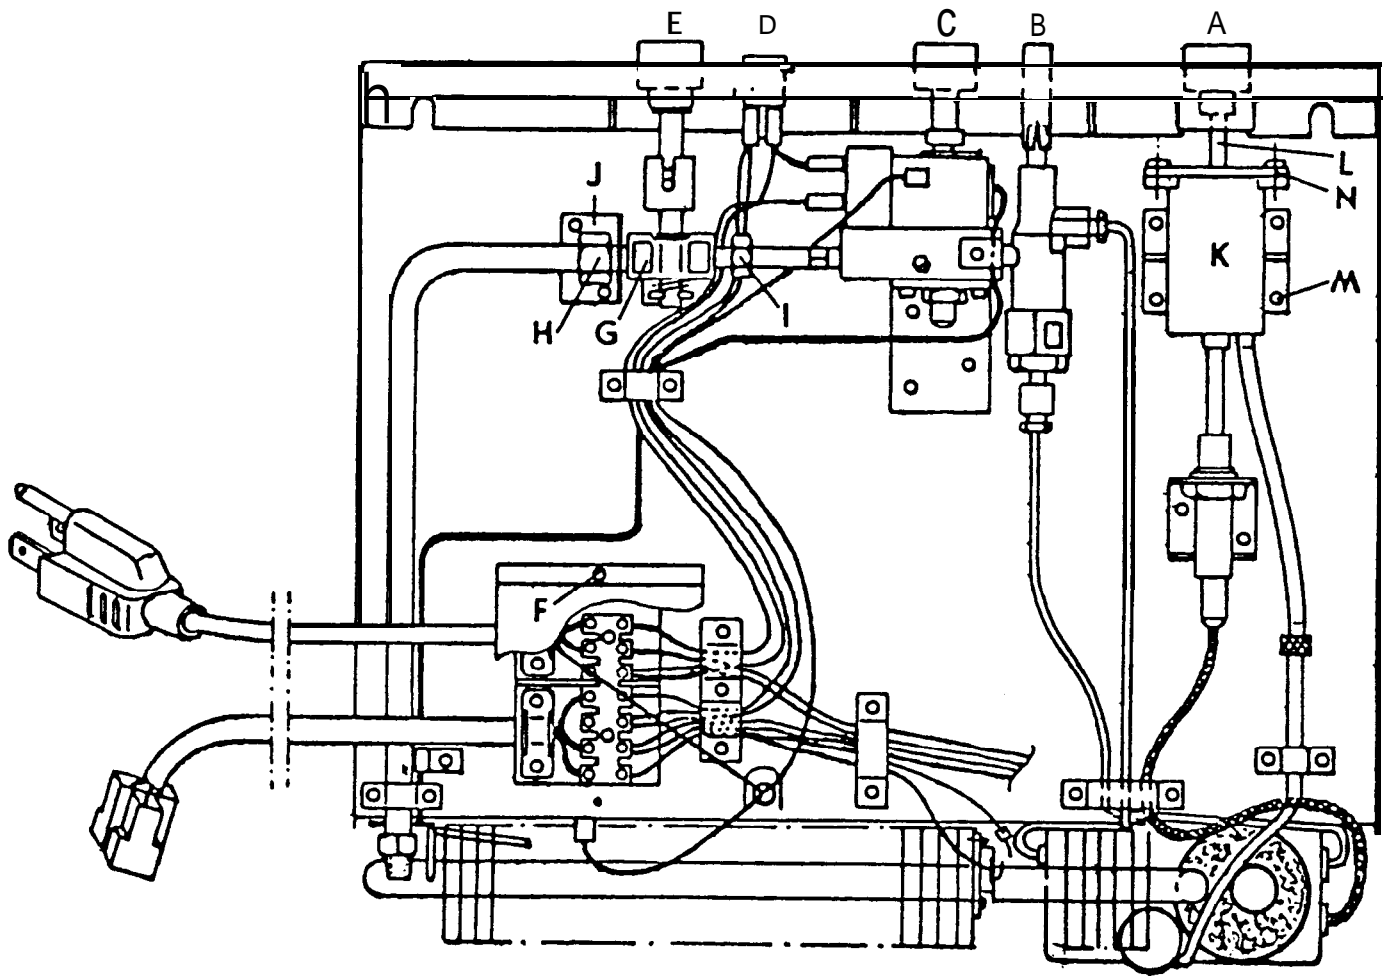

Fig. 9
1. Unscrew knob (A, Fig.9) of air pump (K, Fig.9) from the shaft (L, Fig.9).
2. Unscrew air pump ( 4 screws / M, Fig. 9).
3. Unscrew cover of air-pump ( 2 screws / N, Fig. 9).